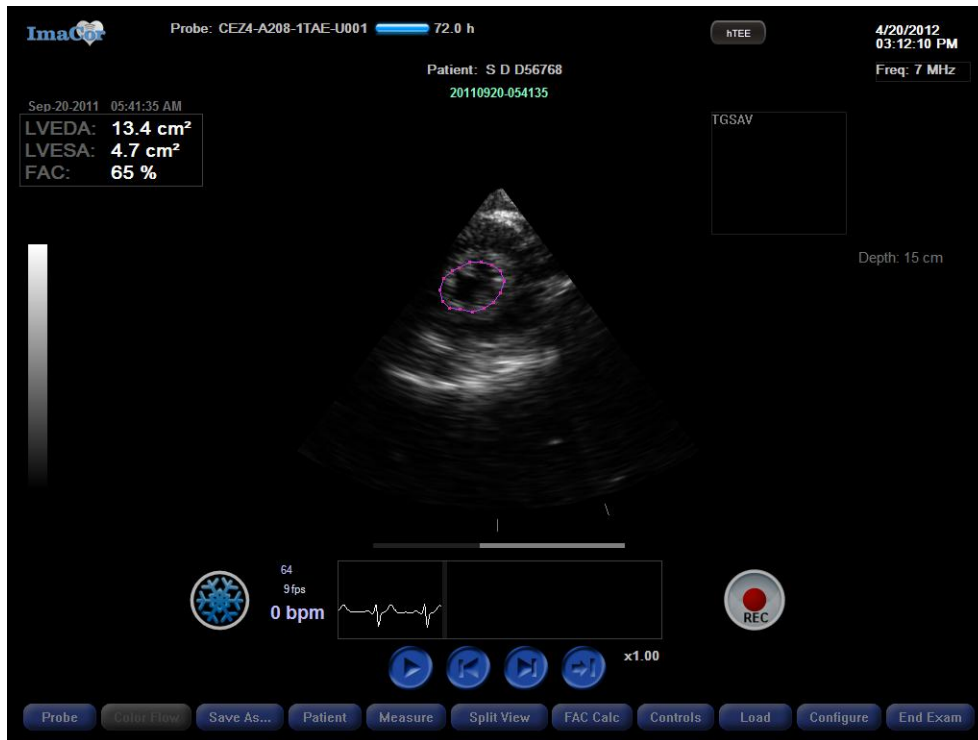

Fig. 74 Completed FAC calculation
- 6 When you have finished, tap the Done button. The LVEDA, LVESA, and FAC values are automatically calculated and displayed, as shown in Figure 74.